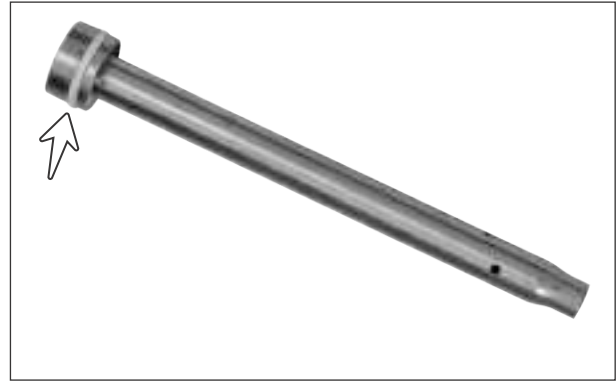

Fig. 6.61
- ▮ Inspect piston front fork and ring damper piston for wear and any damage. (Fig.6.61) Replace with new one if any damage is noticed.